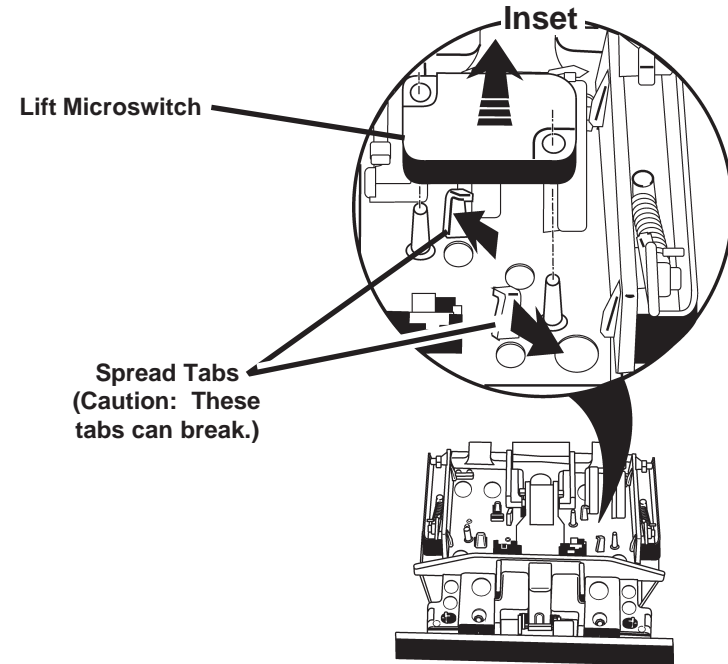

Fig. 3-5
2. Pull back on the two (2) plastic retaining tabs securing the microswitch to the door latch assembly and lift the microswitch out. (Fig. 3-5)